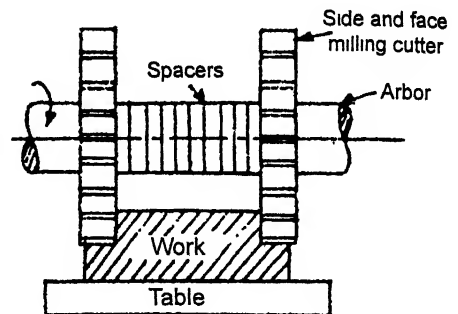

Fig. 10.52. Straddle milling.
**5. Straddle milling** Refer to Fig. 10.52. Straddling milling is an operation in which a pair of *side milling cutters* is used for machining two parallel vertical surfaces of a workpiece simultaneously. The distance between the cutters is adjusted by the spacers. This process is used to mill *square and hexagonal surfaces*.